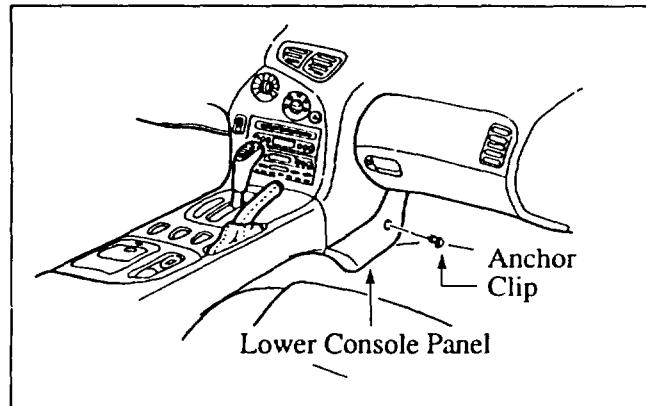

Figure 1: Console Panel Removal
1. Remove the anchor clip from the right lower console panel. **Figure 1.**
2. Remove the right lower console panel. **Figure 1.**